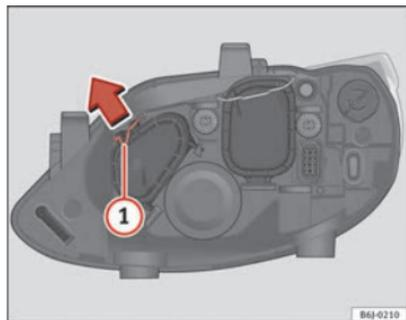

Fig. 151 Main beam headlights
- Move the loop ① in the direction of the arrow and remove the cover ⇒ fig. 151.